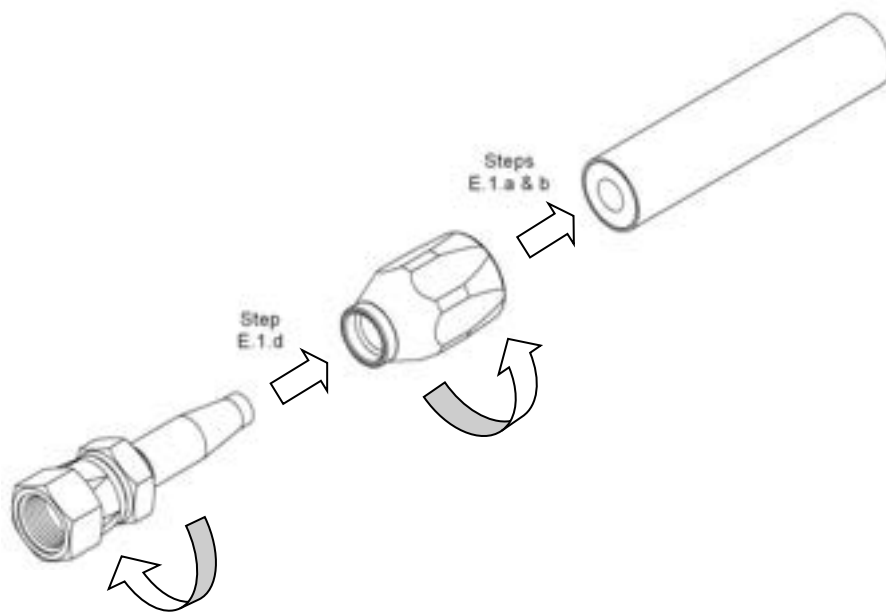

Figure 8
1. Assemble one end fitting onto the high pressure hose. Refer to Fig 8.